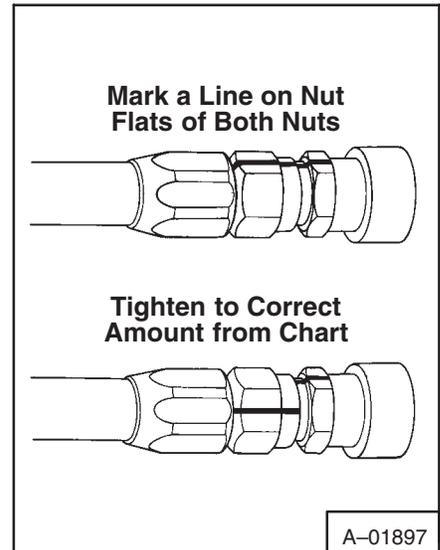

Fig. 2-1 Tightening Flare Fittings
2. Make a mark across the *Flats* of both the male and female parts of the connection (Fig. 2-1).